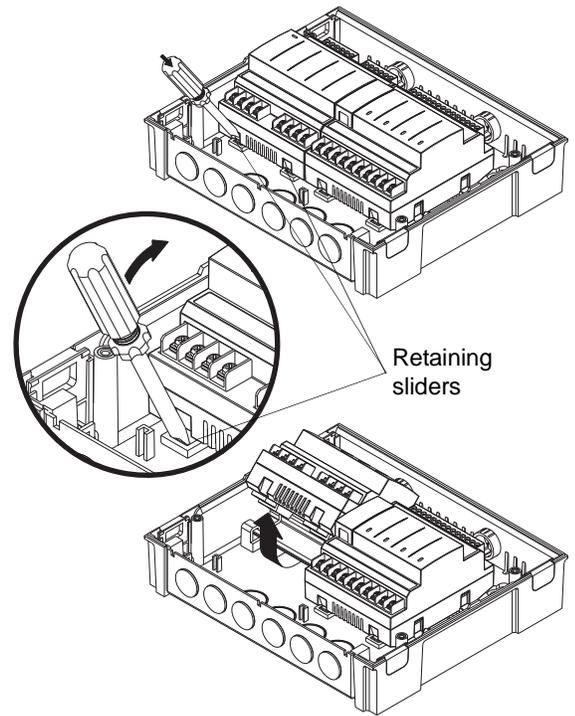

Figure 2: Module Removal
- 7) Once all wiring has been disconnected from the module being replaced, gently pull the two retaining sliders (found underneath the module) toward the bottom of the module to disengage it from the DIN rail. There will be an audible “click” when these sliders have been pulled far enough (about 3/16”) to allow removal of the module. [Refer to Figure 2]